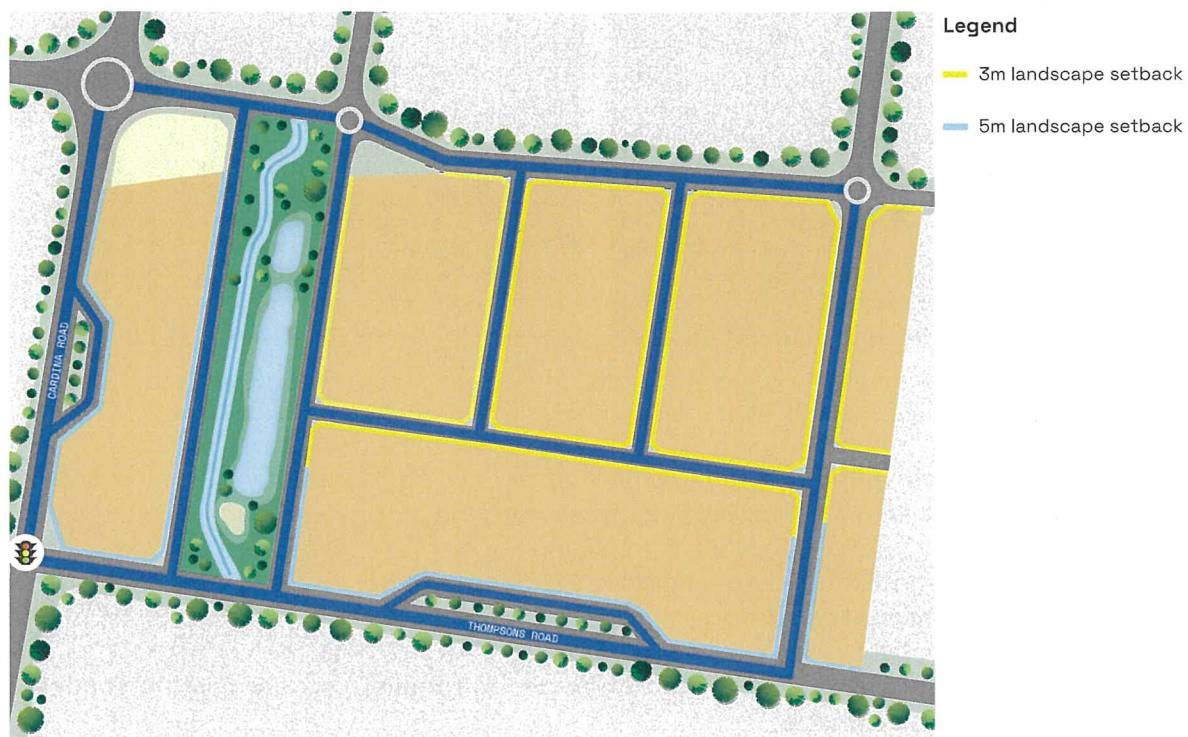

Figure 5: Landscape Setback Plan
Each site must provide a minimum landscape zone to all street frontages in accordance with Figure 5. This is a minimum requirement; additional landscaping is encouraged.
- Landscaping in side and rear setbacks must be provided if the side or rear of the site adjoins a street or is visible from key public viewing areas such as open space reserves in accordance with Figure 5: Landscape Setback Plan.